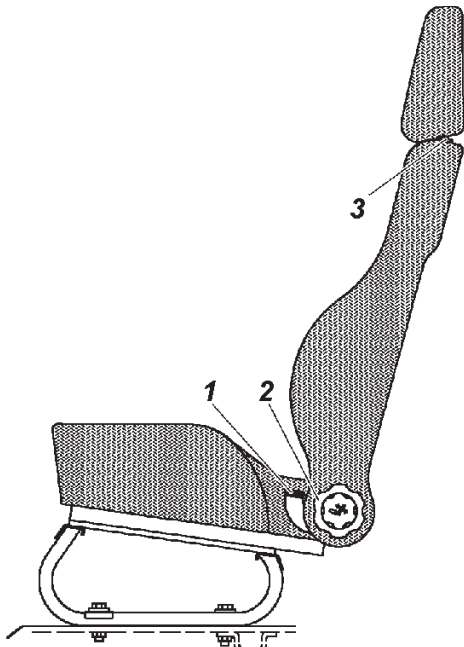

Fig. 3.8. Front seat:
- down by applying manual force, but with the head rest fastener button 3 pushed in (Fig. 3.8).
Longitudinal adjustment of the **front seats** is performed using lever 1 (Fig. 3.8):